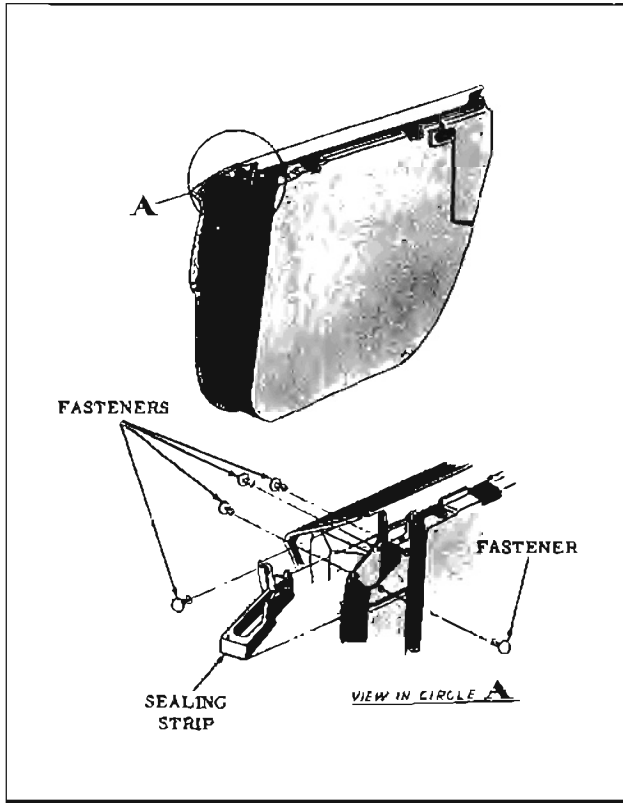

Fig. 16-22 Hinge Pillar Sealing (at Belt)
1. Remove snap fasteners securing sealing strip to hinge pillar facing of rear door and remove strip assembly. (Fig. 16-22)